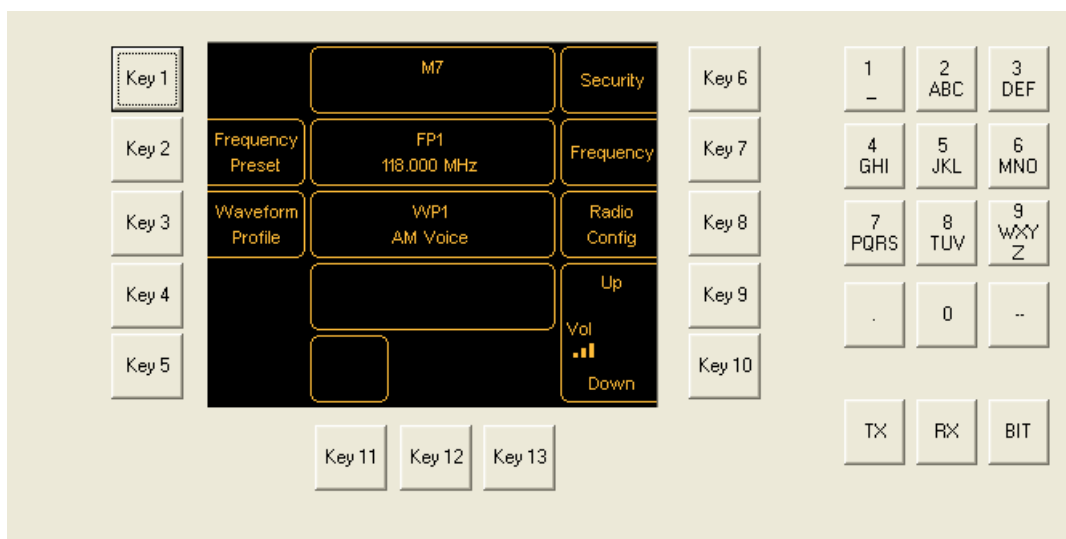

Fig 3-26 Home Screen
- (1) From the Home screen (Fig 3-26) press *Key 8 – Radio Config*.